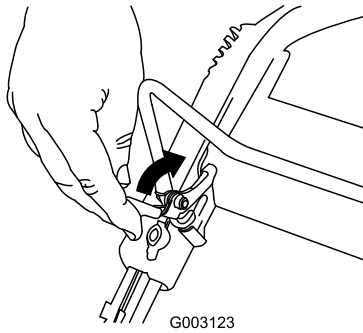

Figure 17
1. Pull the control bar lock back (Figure 17).